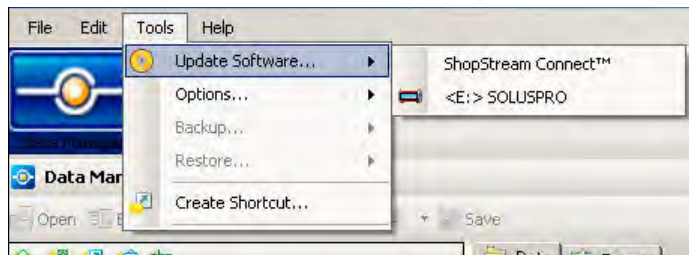

Figure C-10 Sample Update Software menu
6. Once ShopStream Connect opens; select Tools > Update Software > SOLUS PRO from the Menu bar (Figure C-10).